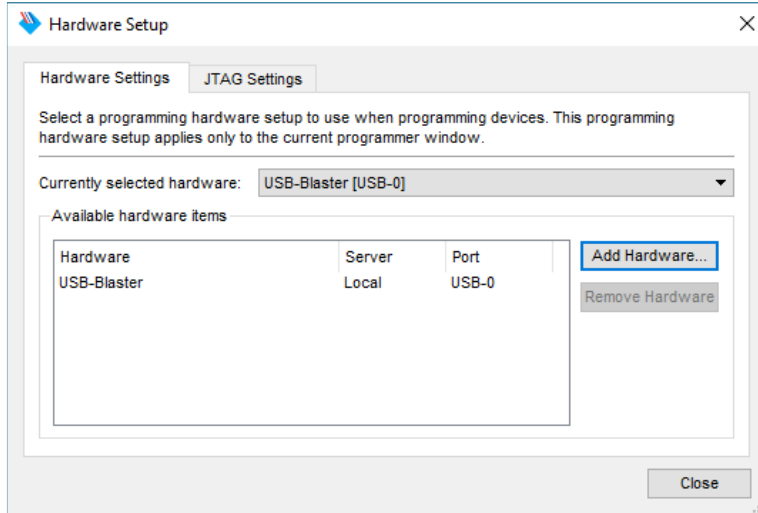

Figure 88 Selecting programming hardware
- Click Hardware Setup.. button and select your download cable, click Close (see Figure 88).